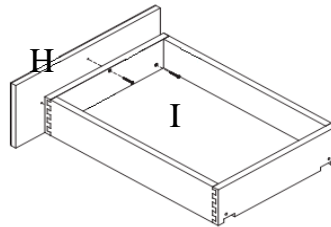

Figure 8
6. Drawer Assembly (Figure 8): Place the drawer front(H), face down on a flat surface, install the assembled drawer box(I) to the drawer front(H) using 1" flat head screws.(Repeat this step for more drawers).